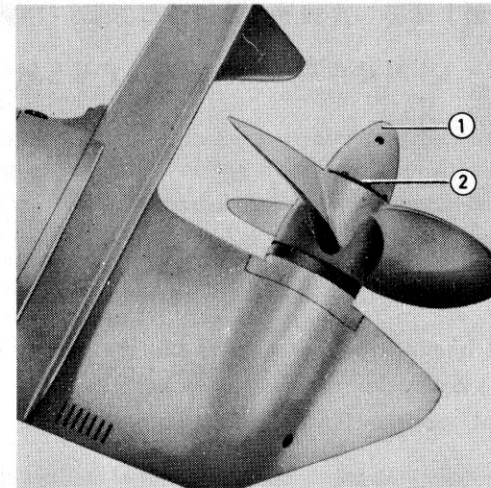

Fig. 8
1. Bend up the lock tabs on the lock washer (2, Fig. 8) for the propeller cone (1) and screw off the cone.